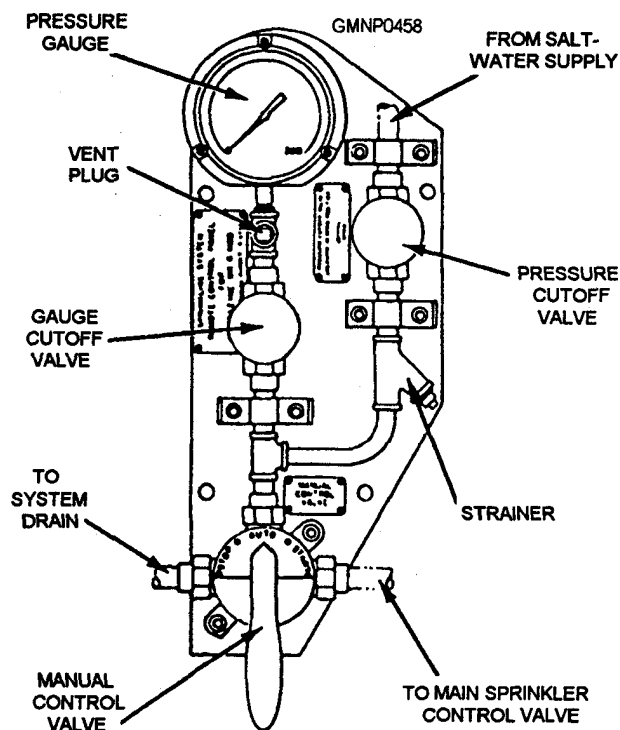

Figure 8-32.—Remote control panel.
**LOCAL AND REMOTE CONTROL VALVES.**— The local and remote manual control valves (fig. 8-32) are lever-operated rotary valves. Each one has three positions: OPEN, NEUTRAL, and CLOSED.